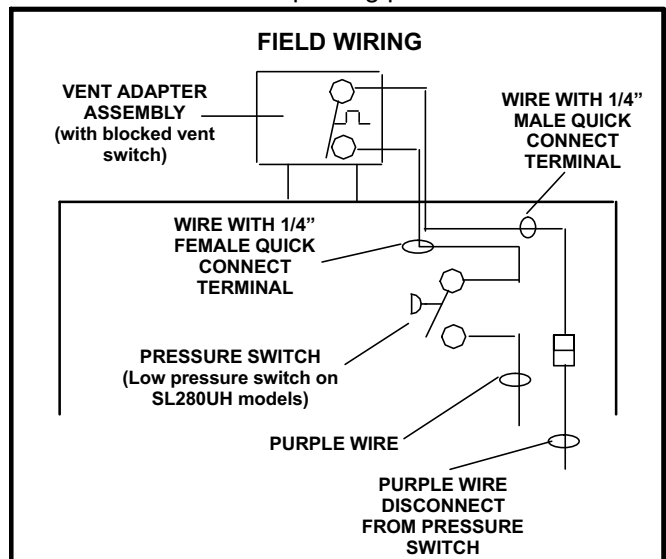

FIGURE 5
- 6 - The vent adapter assembly includes a blocked vent switch which must be wired into the furnace combustion air proving pressure switch as shown in figure 5. This manually reset switch interrupts unit operation when the vent is blocked. The switch must not be reset until vent blockage is cleared.